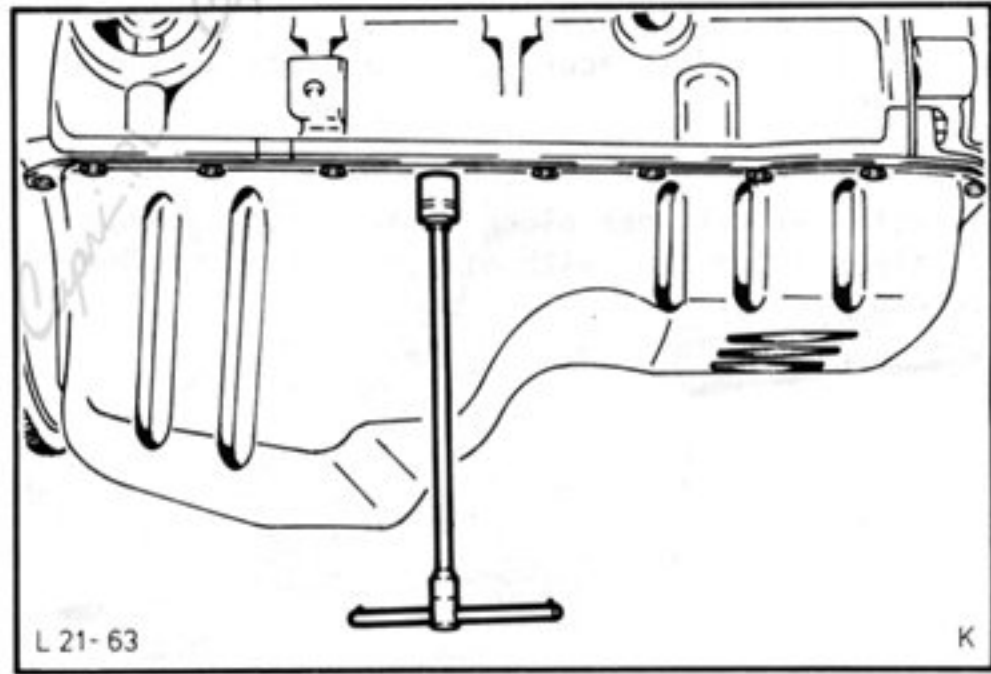

Fig.31. Detach sump.
15. Remove sump downwards to prevent oil sludge or swarf from getting into the engine, Fig.31.